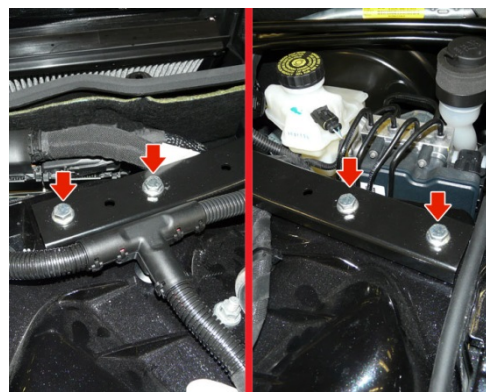

Fig.6
- f. Remove the bolts on the engine compartment front cross member. (Fig.6)